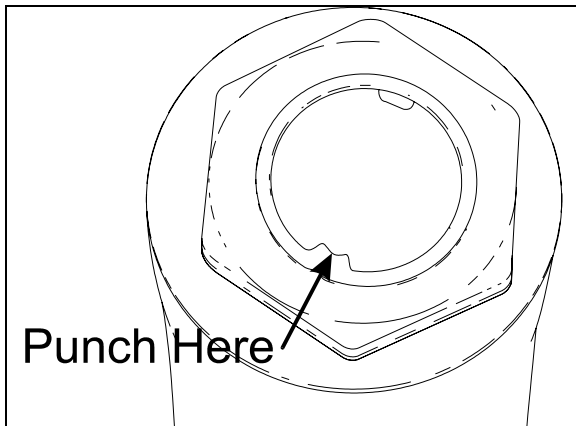

FIGURE 7: FIXING NUT PUNCH MARK 16098
3. Lock nut with sector shaft using a punch mark into the groove (Refer to figure 7).